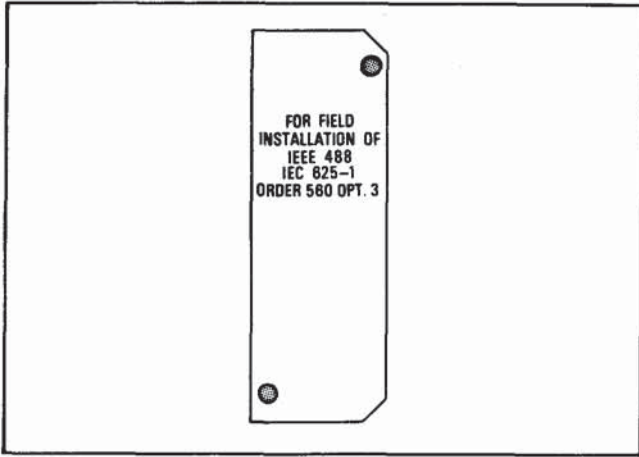

Figure 2-4. Option 3 Cover Plate on Model 560A Rear Panel
- c. On the 560A rear panel, remove the plate covering the Option 3 mounting hole. This plate is shown in Figure 2-4.